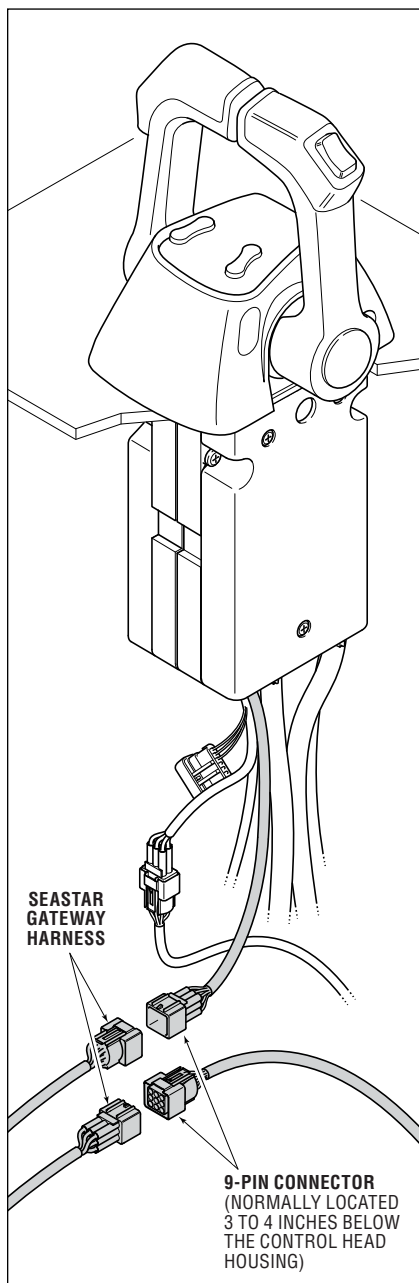

Figure 7-5. Status LED connector identification and connection.
11. Twins and triples: From behind the dash, find the 9-pin connection from the control head, disconnect it, and plug the connectors to the portion of the SeaStar gateway harness labeled 'LED' (Refer to figure 7-5).